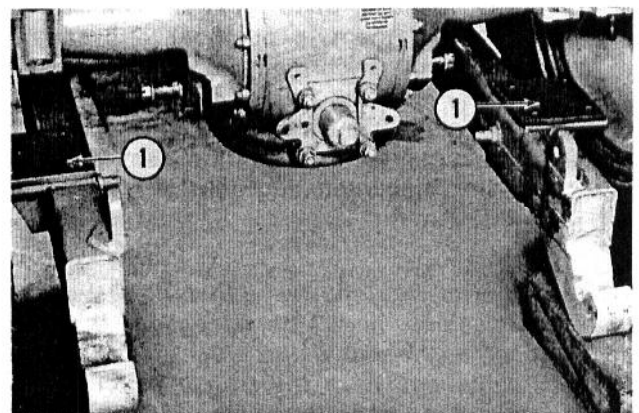

Fig. 6 — REAR VIEW OF LOADER DETACHED FROM REAR AXLE HOUSINGS
- g. Place jacks under loader side frames (to hold them in position) and remove the bolts securing the side frames to the rear axle housings. Slowly lower the side frames to the floor. (The fenders may be left on the rear axles by using their mounting bolts to hold them.) See Fig. 6.